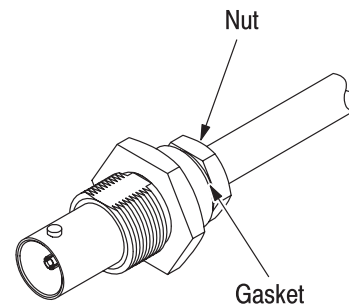

Figure 7
6. Thread nut into bulkhead jack body until it is secured. The recommended cable clamp tightening torque is 2.8 – 3.4 N•m [25 – 30 in.-lb], using a 7/16-in. wrench. See Figure 7.